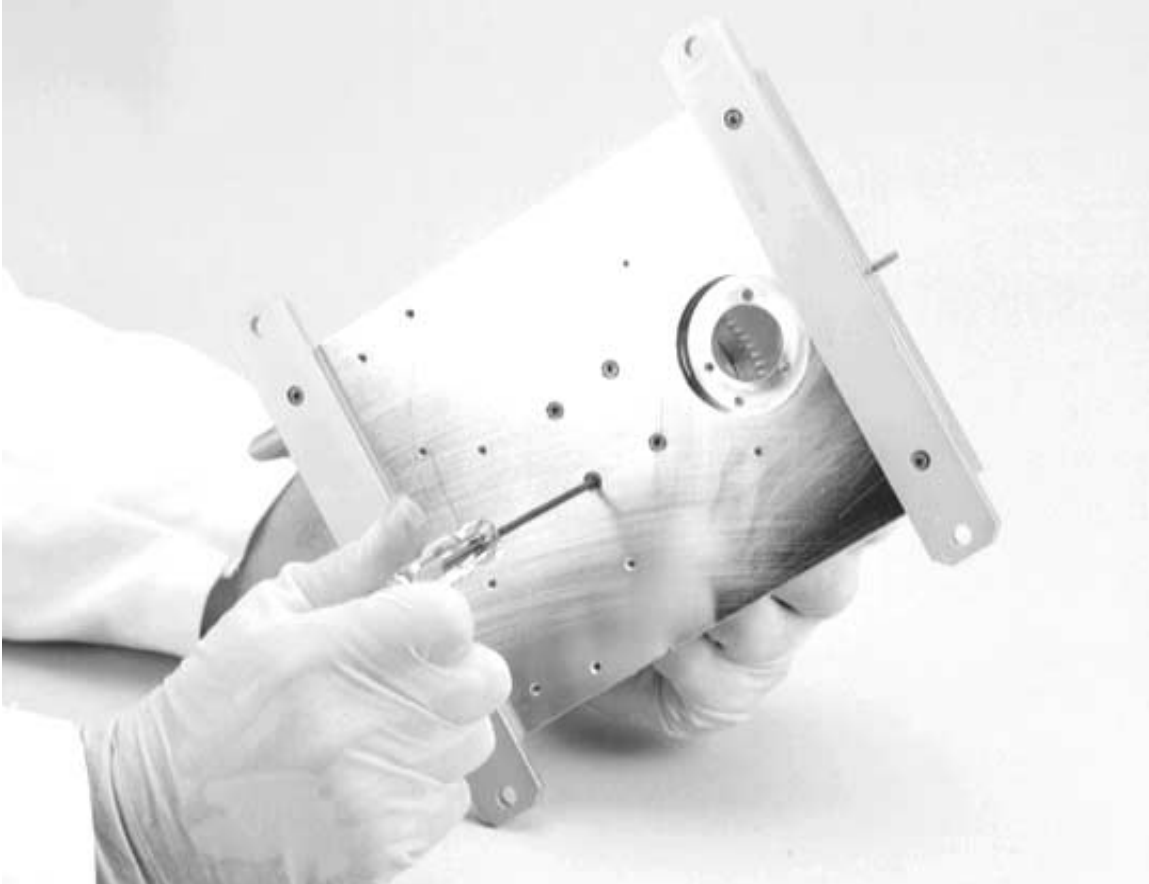

Figure 6-13. Detaching the pivot plate shaft from the base plate
Step 18: Holding the remainder of the source as shown in Figure 6-13, remove the four 6-32 \times 3/8-in. screws that secure the pivot shaft to the base plate. Then you can remove the bearing housing assembly (which contains the pivot shaft) from the source.